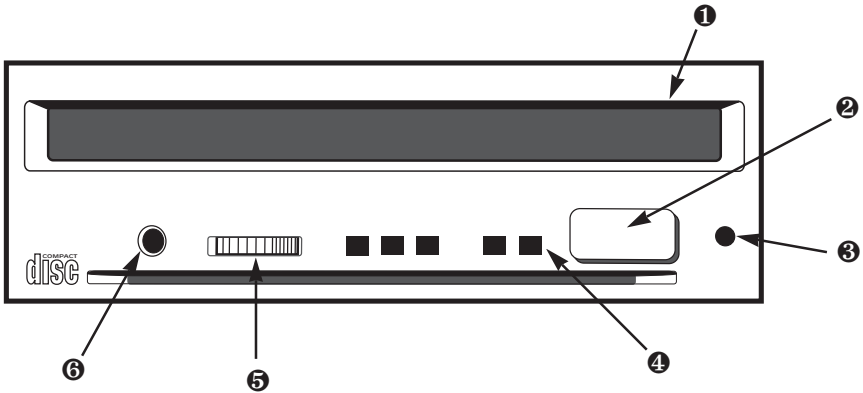

Fig. 4-1. The CD-R Drive.
Figure 4-1 shows the front of the CD-R drive, which is the top drive in the Tower.
2. Insert the caddy in the slot (number ❶ in Fig. 4-1) with the disc's label facing up, and push the caddy until it is accepted into the drive completely.